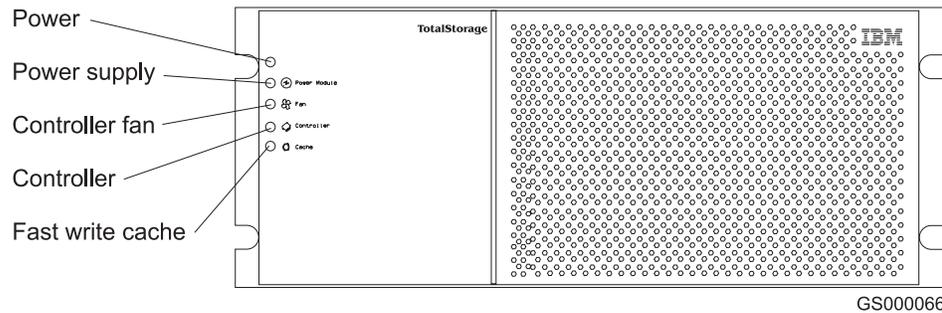

Figure 35. Indicator lights on the DS4500 Storage Server bezel
5. Using Figure 35 as a guide, check the controller indicator lights.